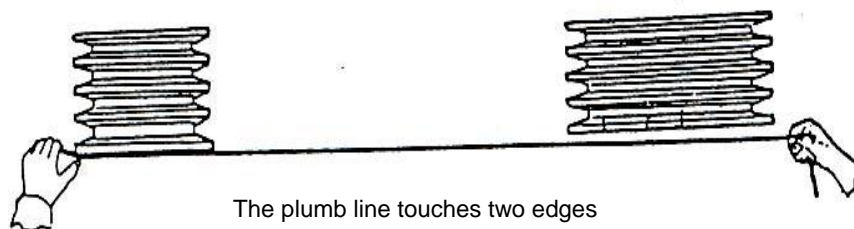

FIG 20.
B. Slowly move the other end towards the drive until the line touches another edge of any of the pulleys. (Fig 20)